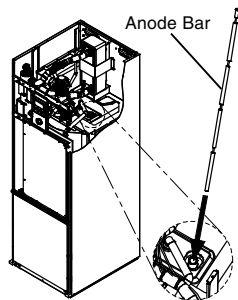

Fig.2
8. Make sure to straighten the Anode Bar fully before inserting inside the Tank Unit. (Refer Fig.2)